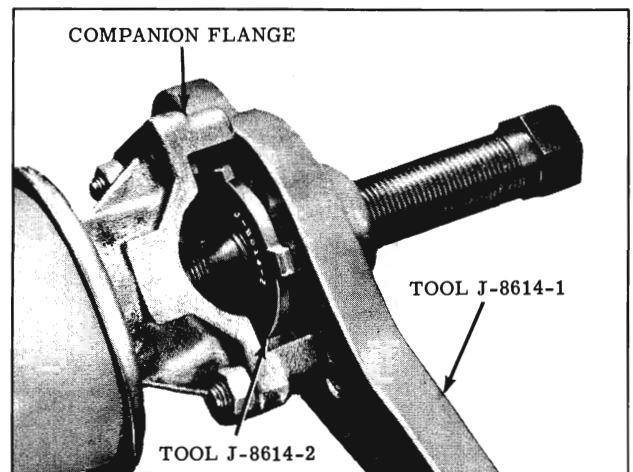

Fig. 6-104 Removing Companion Flange
4. Using Tool J-8614-1 and J-8614-2, remove flange. (Fig. 6-104)